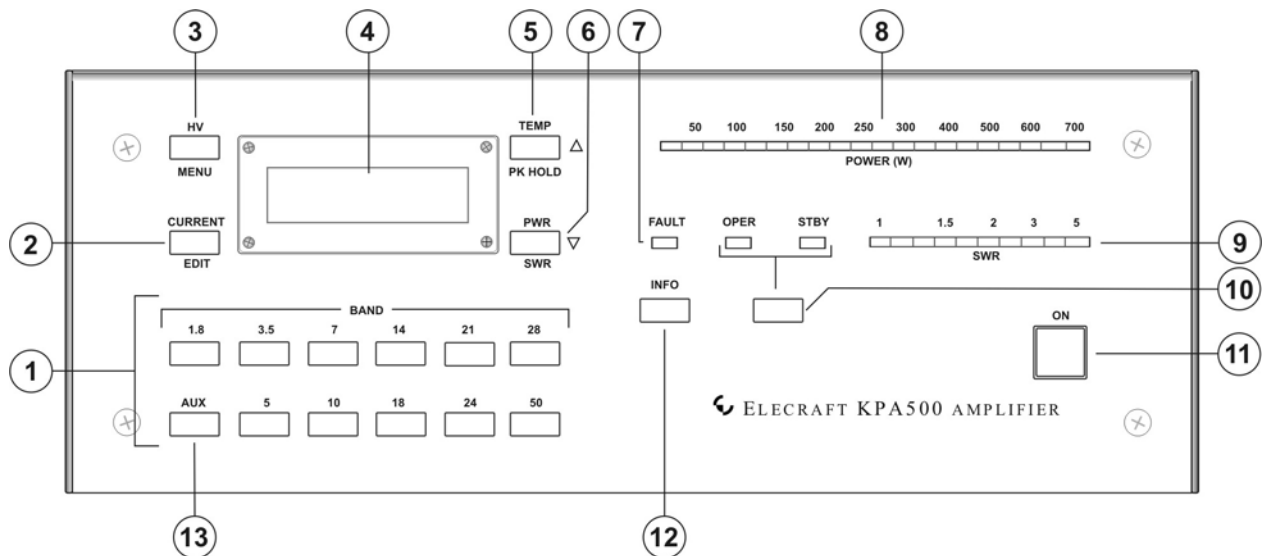

Figure 2. KPA500 Front Panel.
- Position the rear-panel power switch {3} to On (I).
- Tap the front panel **ON** switch ({11} on Figure 2). The LCD should light.
- Tap the **HV** switch ({3} on Figure 2) and note the voltage displayed on the LCD. It must be between 65 and 85 volts. If it is outside of this range, immediately tap the **ON** switch to turn the KPA500 off, wait until the fan stops completely, and then position the rear panel power switch to off (O). The fan runs to discharge the power supply to a safe level. Do not disconnect mains power or position the rear panel rocker switch to off until the fan stops.
**NOTE:** The red FAULT LED ({7} on Figure 2) will light when you tap the **ON** switch to protect your KPA500 if the power supply voltage is too far above the upper limit. Use a power transformer tap lower on the above table and retry the test.